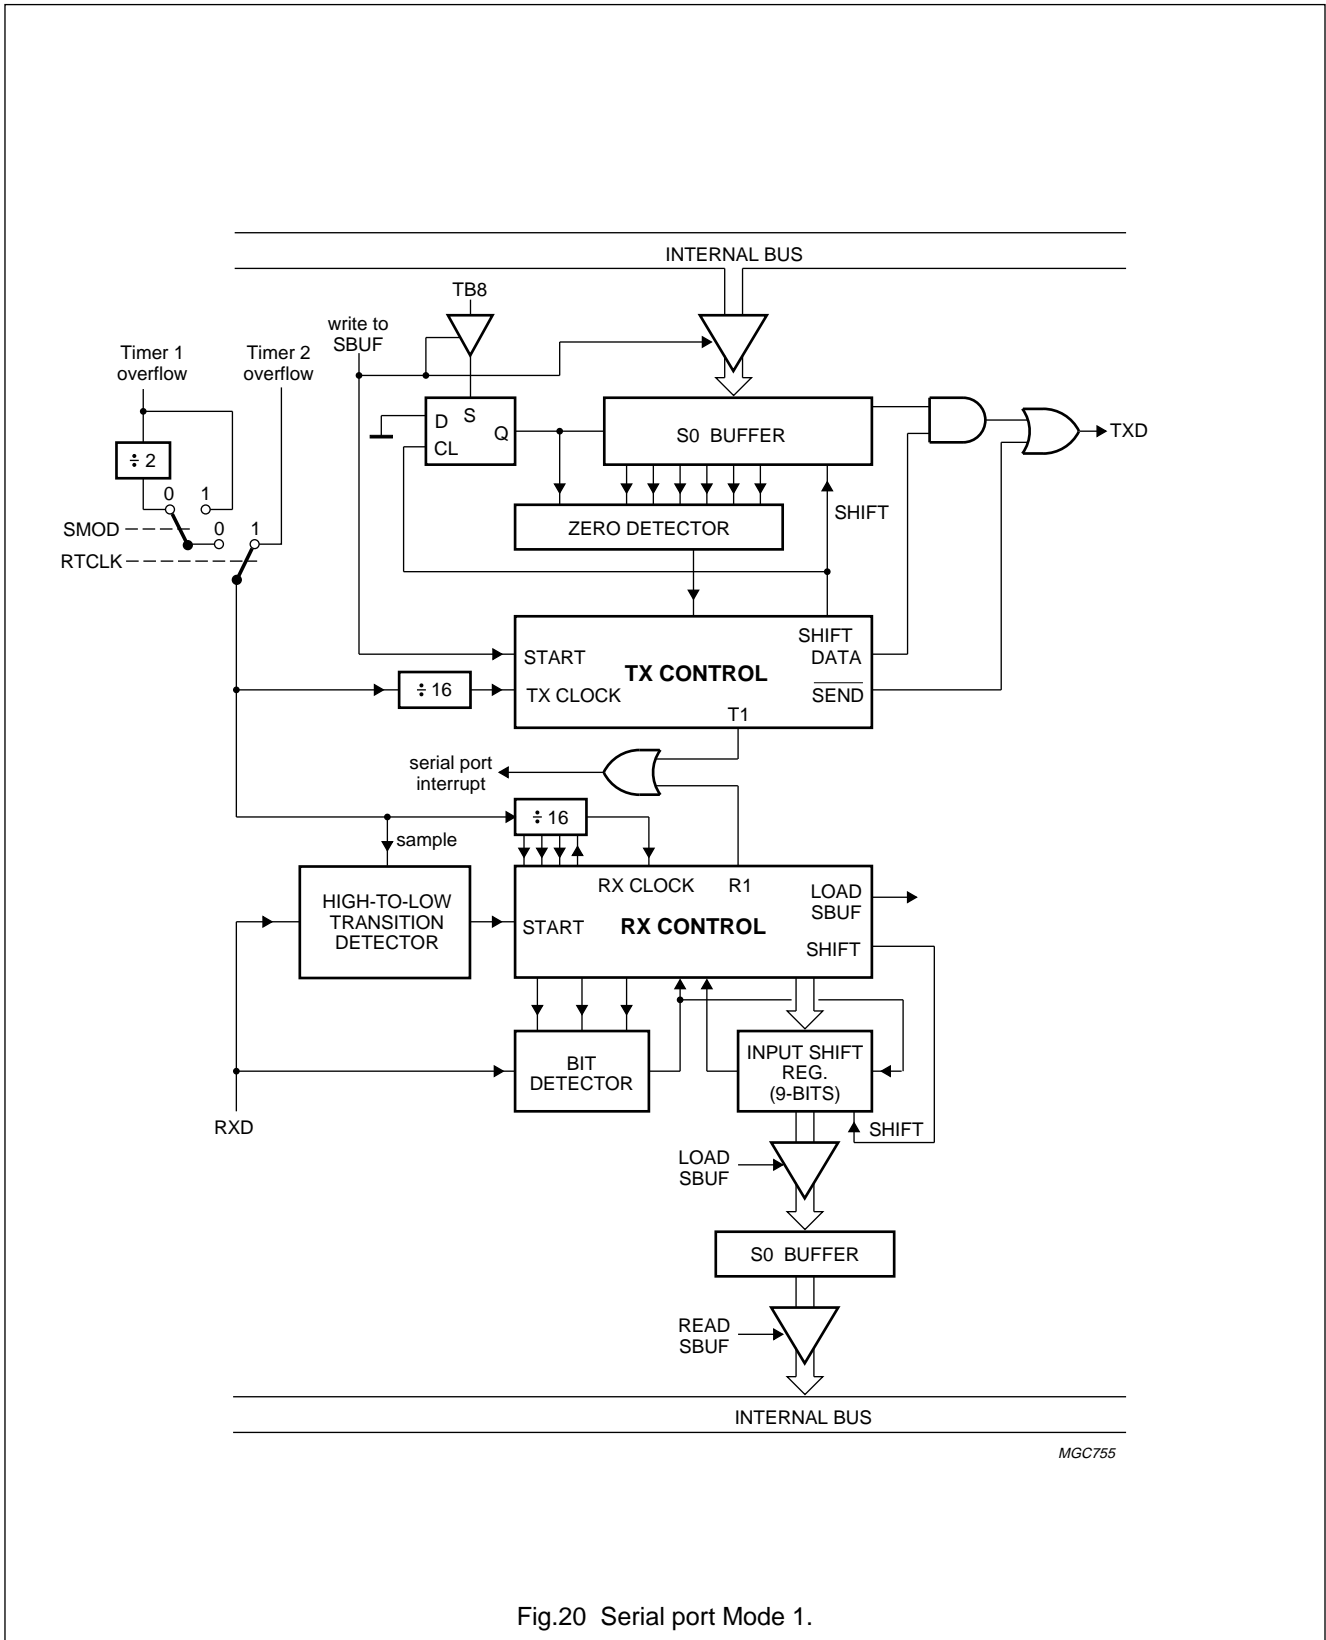

Fig.20 Serial port Mode 1.
- Mode 1 10 bits are transmitted (through TXD) or received (through RXD): a start bit (logic 0), 8 data bits (LSB first), and a stop bit (logic 1). On receive, the stop bit goes into RB8 in Special Function Register S0CON. The baud rate is variable. See Figs 20 and 21.